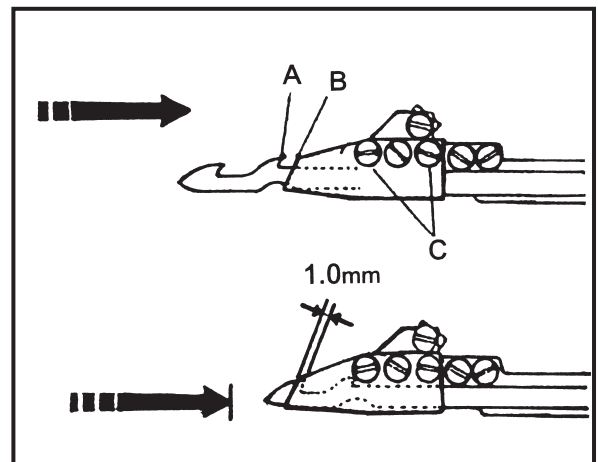

Fig.39
When Lower Moving Knife move to the right, the Moving Knife hook (A) of right hand side one align with the tip (B) of Fixing Knife. When the Lower Moving Knife move to the right dead point, The Moving Knife hook of left hand side one pass the tip of Fixing knife in 1.0 mm. Loosen the screw (C) for adjusting the position of Fixing Knife. (Fig.39)